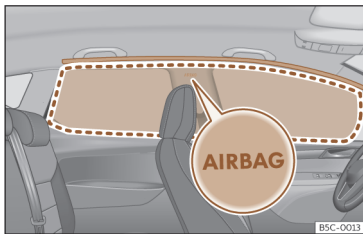

Fig. 32 Location of head-protection airbags.
Head-protection airbags are on both sides of the passenger compartment, above the doors >>> **Fig. 32** and their location is indicated with the word “AIRBAG”.
The framed area is covered by the head-protection airbag when it is deployed (deployment area) >>> **Fig. 32**. Therefore, objects should never be placed or mounted in this area >>> ⚠.
- Ensure that children are correctly seated in their seats and that their heads are not in the deployment zone of the head airbags >>> **Fig. 32**, as deploying airbags could hit them and cause serious injury.